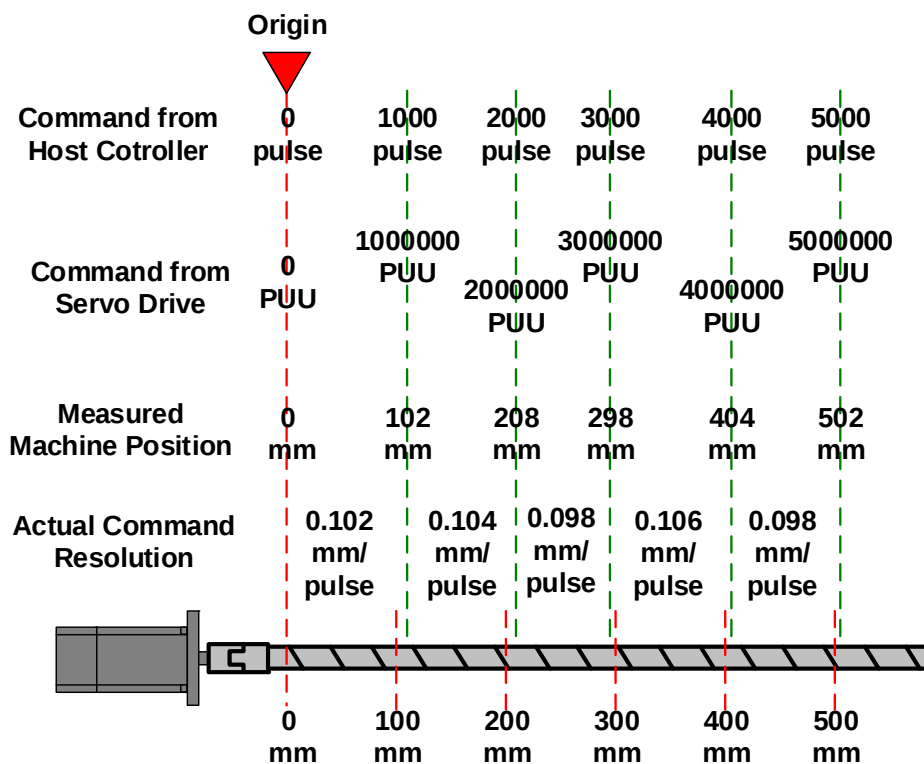
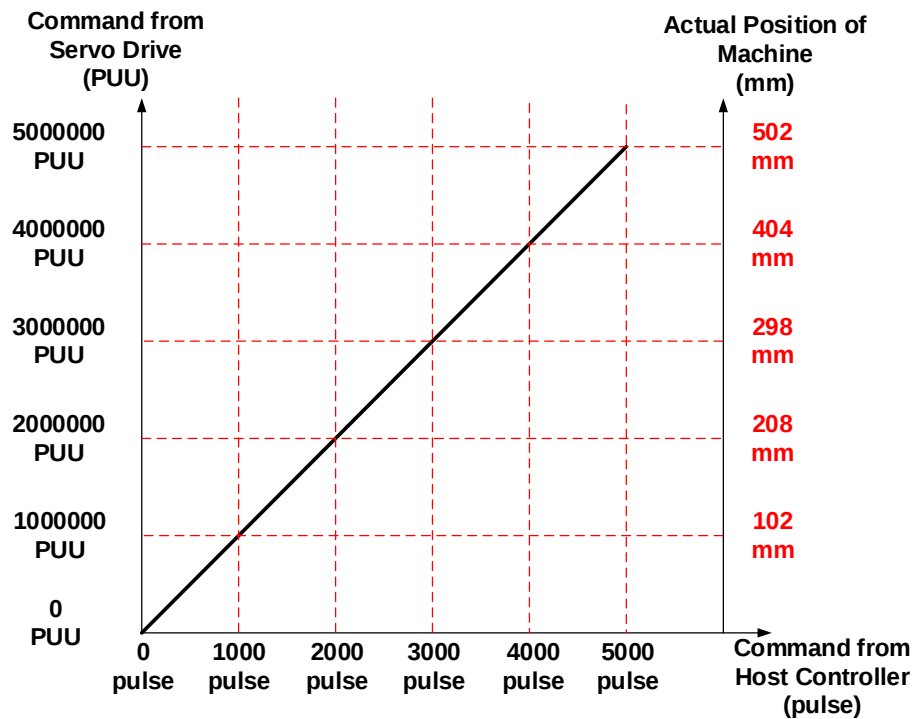
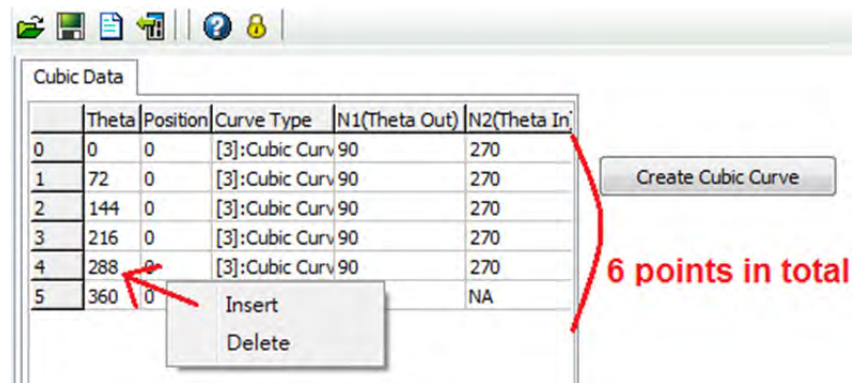

Figure 4.2.9 Measurement Result when Tolerance Exists
Figure 4.2.10 The Correlation when Tolerances Exist
Figure 4.2.14 Total points = measuring points + origin
In the actual measurement, there must be tolerance. See Figure 4.2.9. Thus, the E-Cam curve will be used to compensate and restore the resolution to 0.1 mm/pulse between every division.
3. Right click the mouse button to insert points. The total points will be the measuring points plus the origin. See example in Figure 4.2.9, the total required points are 6 (Figure 4.2.14). Set Curve Type for each point to [1]: *constant line*.
4. Please refer to Figure 4.2.9 and Figure 4.2.10. Calculate the angle of the master axis and take 0.1 mm/pulse as the basis of command resolution.